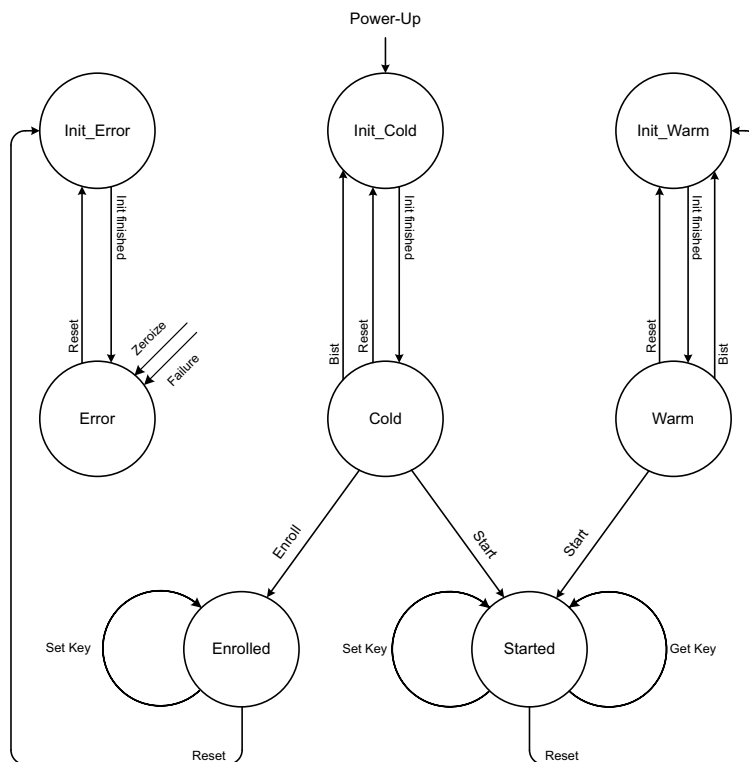

Fig 179. Possible flows, states, and actions
After power-up or reset the PUF controller starts in one of the three Init states, depending on its previous state. See Figure 179. It first initializes itself (indicated by BUSY = 1).
3. After the operation is finished the PUF de-asserts BUSY and asserts SUCCESS, signaling that the Start operation has completed successfully. When ERROR is asserted, instead of SUCCESS, the provided activation code does not match the device. In this case the PUF as gone to the Error state. See Figure 179 and Section 48.10.7.13 "Error response".
3. After the operation is finished BUSY is de-asserted and SUCCESS is asserted. It indicates that the Get Key operation has completed successfully. If ERROR is asserted instead of SUCCESS, the provided key code does not match the device. In this case no key is provided and the PUF controller goes to the Error state. See Figure 179 and Section 48.10.7.13 “Error response”.
When the ZEROIZE bit is programmed to 1, all internal critical security parameters are erased and the PUF controller goes to the error state. See Figure 179. No new operations can be performed until the device is repowered.